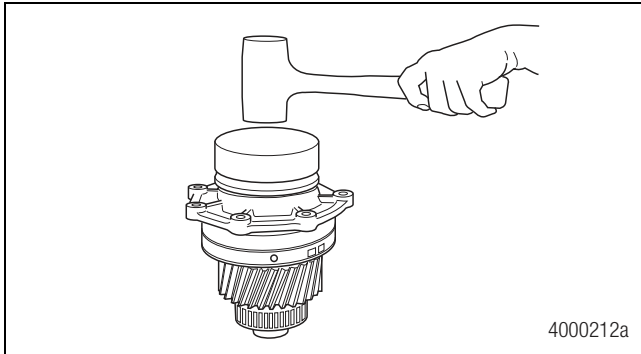

Figure 7.37
6. Install the input seal. Hold the sleeve and seal only on the outer diameter. Position the seal onto the input seal driver and align it with the shaft. NEVER touch the lips in the inner diameter of the seal. Use a dead-blow hammer and the appropriate driver to install the seal onto the input bearing cage. Figure 7.37.